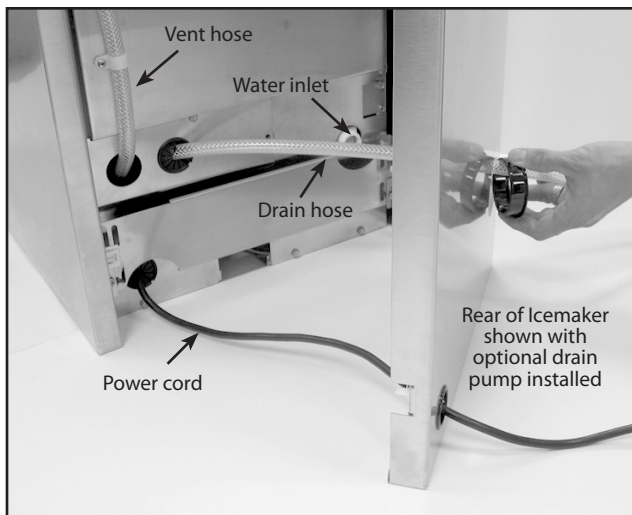

Fig. 12
9. The 4 male catch clips are preinstalled in the back panel. See your Icemaker Use & Care Manual for instructions on connecting to your potable water supply and drain. Route the supply hose thru the large opening in the back panel and connect to the inlet on the back of the Icemaker. If you have installed the optional drain pump (sold separately - model # RF15I-P), feed the drain line thru this same large opening. Feed the power cord thru the smaller opening and install protective grommets on both openings (Fig. 12).